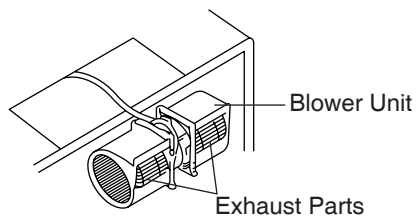

Fig. 1-3-3
- (5) Turn blower unit right to left. Then rotate blower unit 90 degrees so the exhaust ports are facing toward the rear of the product. (Fig. 1-3-3)